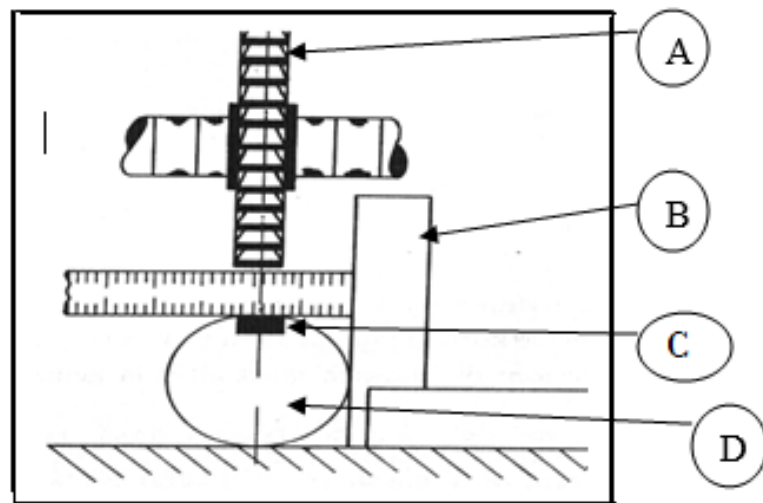

FIGURE 5.4
5.4 FIGURE 5.4 shows a drawing of a keyway being cut on a shaft.